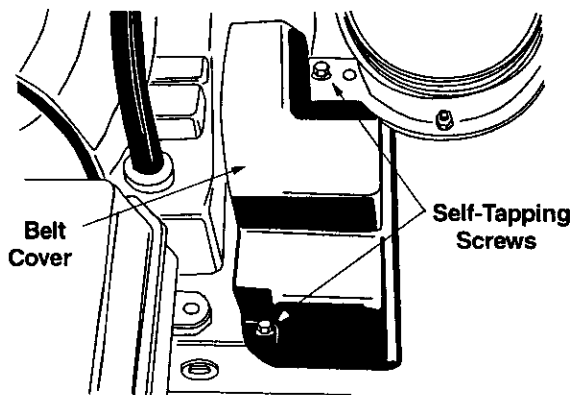

Figure 23
- Remove plastic belt cover from front of the engine by removing the two self-tapping screws. See Figure 23.